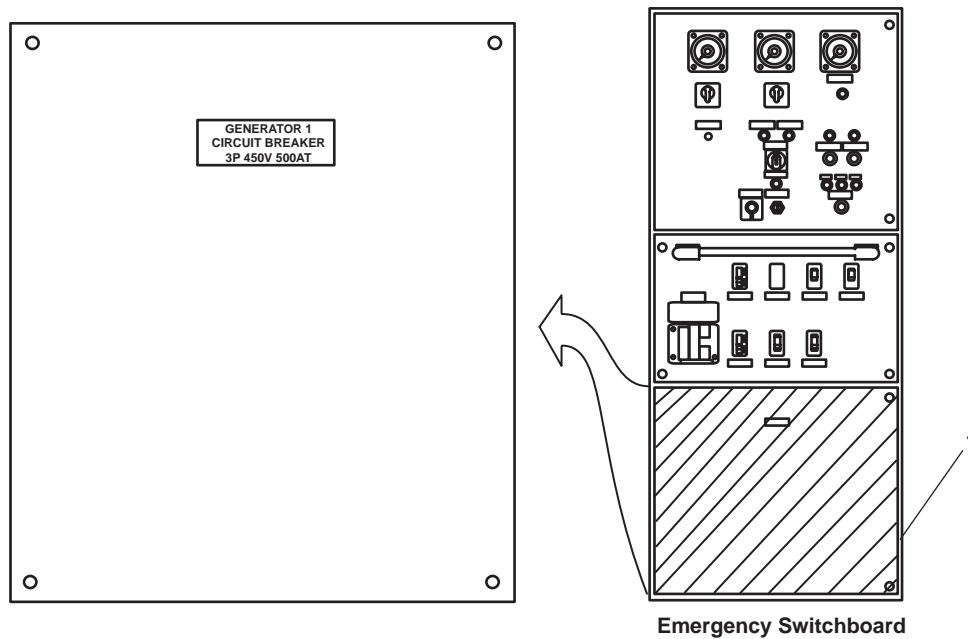

Figure 1. EDG Circuit Breaker Location
1. Refer to WP 0221 00 for removal and installation procedures for the emergency diesel generator (EDG) circuit breaker (figure 1, item 1).